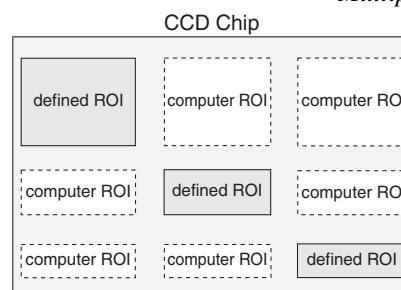

Figure 120. Imaging Mode
Figures 116-120 show possible ROI patterns. Note that the patterns in Figure 120 demonstrate varying size ROIs, a feature of Imaging Mode.
4. Defining the region with the mouse and then changing parameter values via the keyboard before storing the pattern. This allows you to change a full-width ROI created by mouse selection to a partial-width ROI like the one in Figure 120.